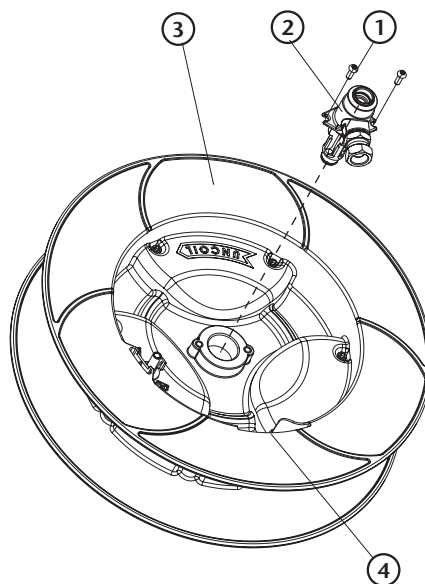

Fig. 19
13. At the opposite spool side, loosen the bolts (1) (fig. 19) used to fix the brass shaft (2) (fig. 19) to the spool (3) (fig. 19). Keep all the components to be able to reassemble later.
14. Replace the spool (3) (fig. 19) by a new one, and proceed to reassemble again all the components in reverse order. Begin assembling the spool brass shaft (2) (fig. 19) tightening the bolts (1) (fig. 19). To avoid spool damage, do not apply a torque more than 4Nm while tightening these bolts. To be able to assemble the spool shaft (2) (fig. 19) in the correct position, make sure to assemble it with the fitting pointing to the spool window (4) (fig. 19).